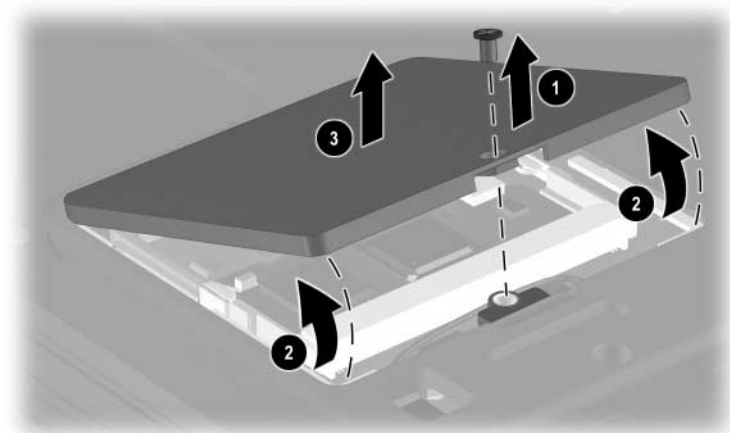

Figure 5-10. Removing the Mini PCI Communications Slot Cover
3. Remove the PM2.0 \times 5.0 screw ❶ that secures the mini PCI compartment cover to the base enclosure (Figure 5-10).
4. Lift the front edge of the cover and swing it back ❷.
5. Remove the cover ❸.